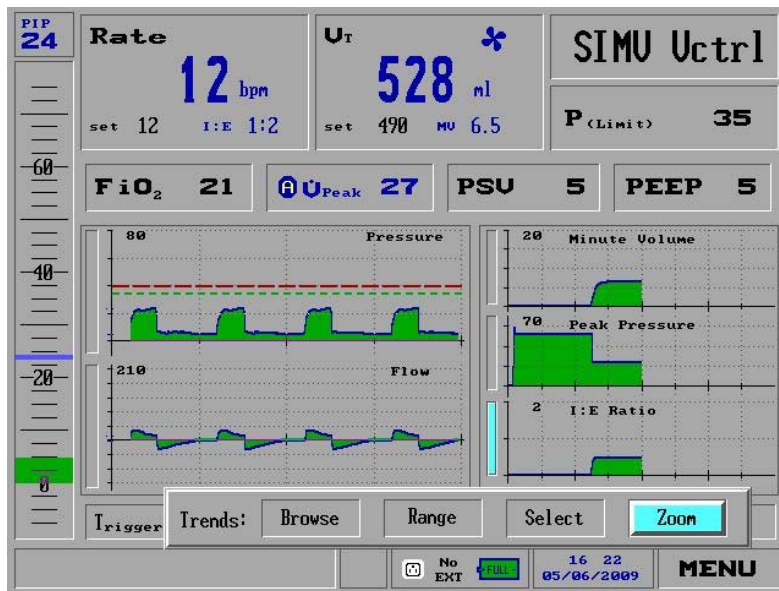

Figure 110: The Trends Choice Pop-Up Window, with Zoom Selected
5. You can change the scale of the time coordinate on which the **Trends** display. Select any of the graphs and press the Control Knob to display the **Trends Choice** pop-up window. Select **Zoom** (Figure 110).